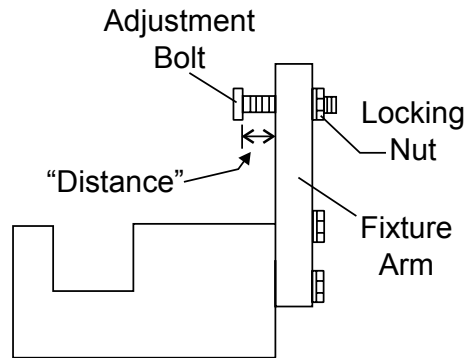

Figure 37. Trowel Arm Adjustment Tool (Side View)
1. Locate the trowel arm adjustment tool (Figure 37) P/N 9177.